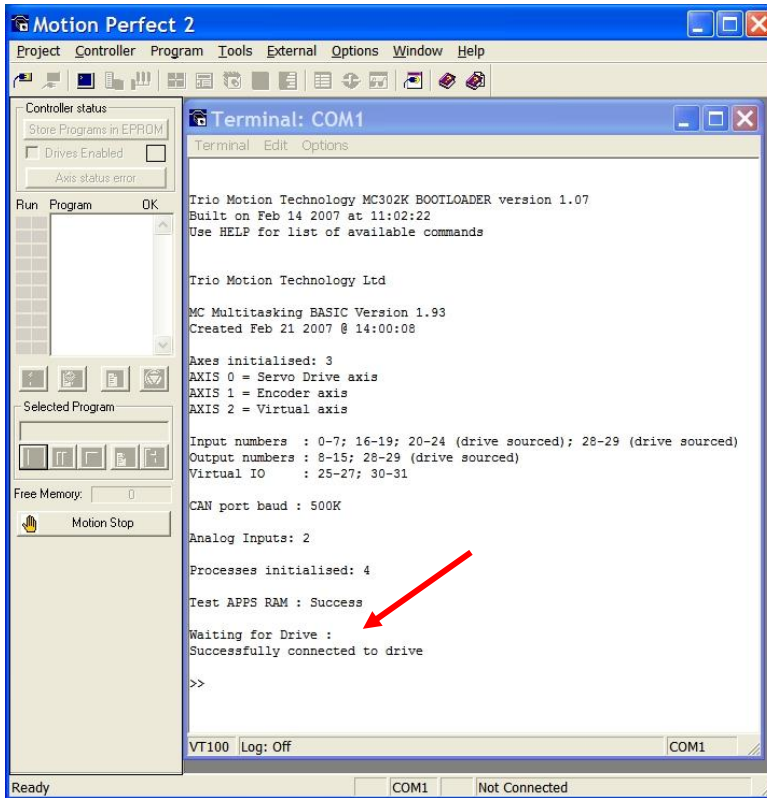

Fig 7 – Successfully configured system boot-up message
5. A properly setup system will look like Fig. 7. If the SERVO\_PERIOD and/or PTBASE parameters are not set correctly, the boot-up message will look like Fig. 8. Recheck both and cycle power again.